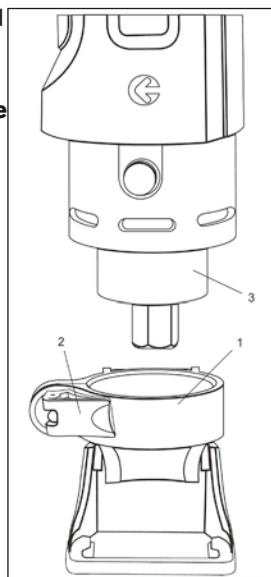

Fig. 2
1. Open the freehand cutting guide mounting collar (1) by pulling the quick release lever (2) outward (Fig. 2).
2. Slide the mounting collar onto the bottom of the motor housing (3).